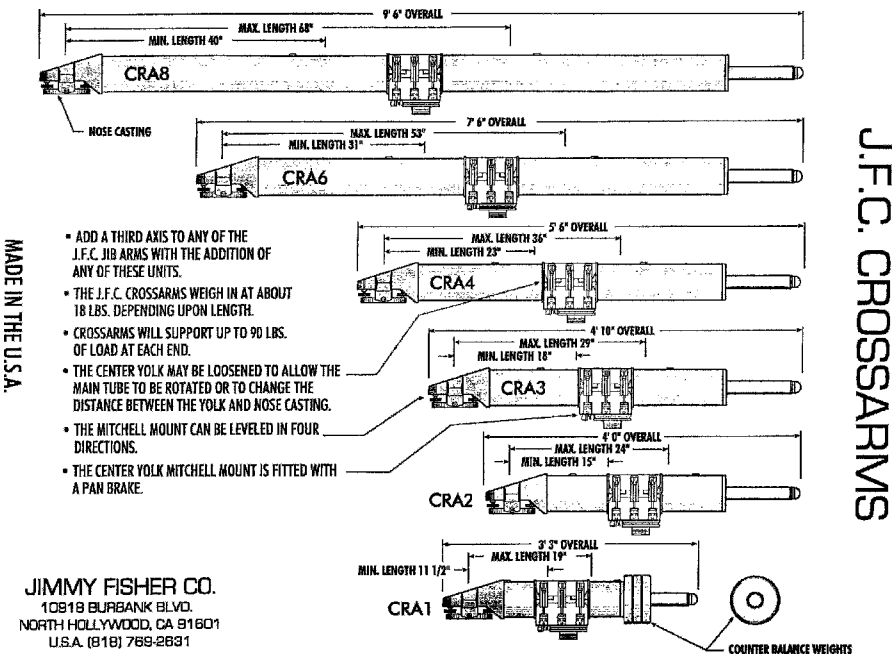

Figure 10.13 J.F.C. Crossarm configurations.
- **JF Crossarm** (Figures 10.13 and 10.14)